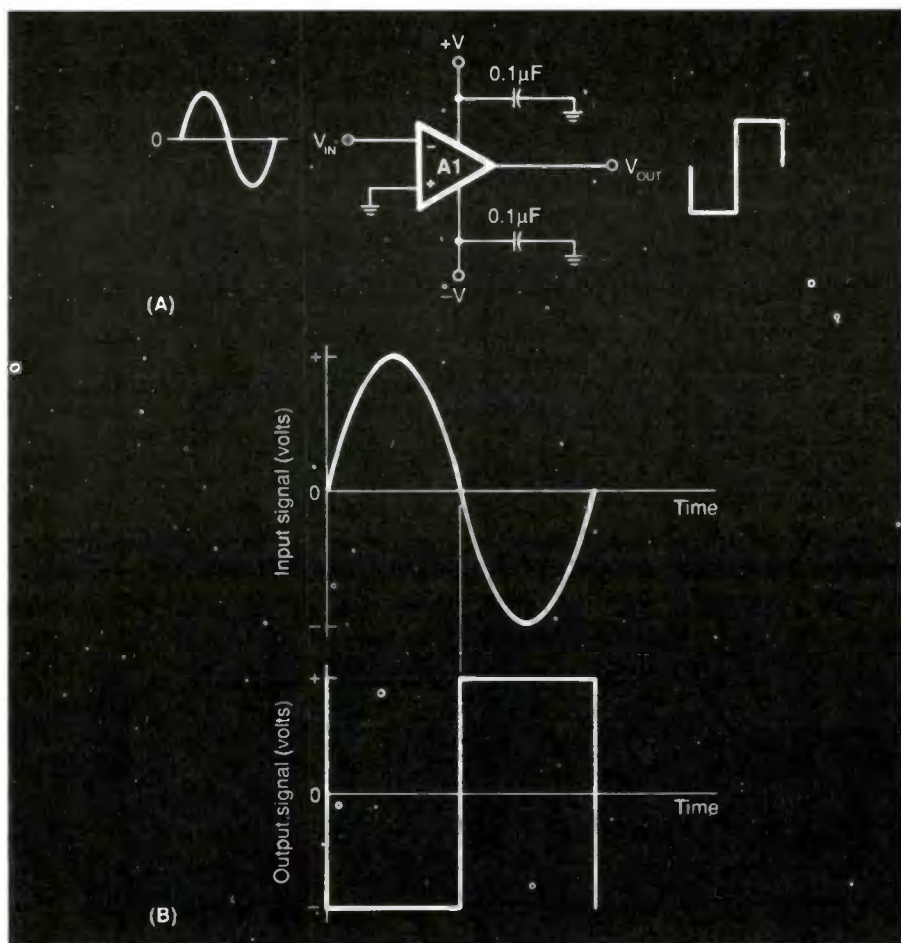

Fig. 9. (A) Voltage comparator used to make square waves from sine-wave input. (B) timing diagram waves.
Figure 9 shows a method for converting sine waves to square waves. The circuit configuration is shown in (A), while the waveforms are shown (B). The circuit uses an op amp connected as a comparator. Because the op amp has no negative feedback path, the gain is very high ( $A_{vo}$ ). In op amps gains of 20,000 to 2,000,000 (250,000 typical) are frequently found. Thus, a voltage difference across the inputs of only a few millivolts will saturate the output of the op amp, which is illustrated in Fig. 9(B).